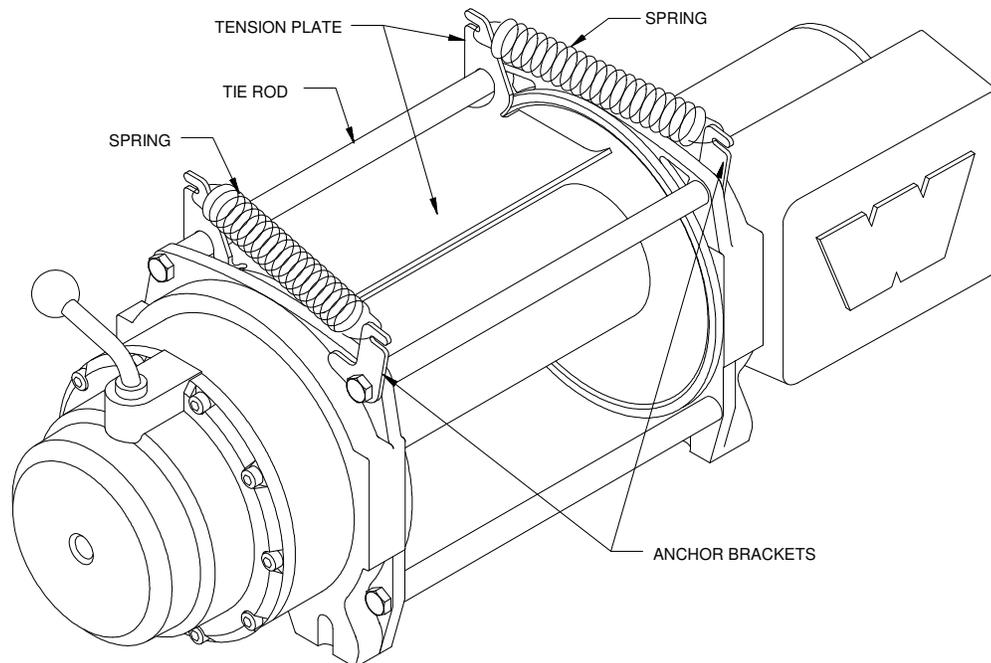

Figure 4.2
1. Mark the tie rod on which the tension plate pivots and the tie rod the spring anchors are attached to. This will aid re-assembly (*Figure 4.2*).
1. Re-install the spring anchors on previously marked tie rod. **NOTE:** Anchors must be on the outboard side of the drum support or tensioner will not function properly (*Figure 4.2*).